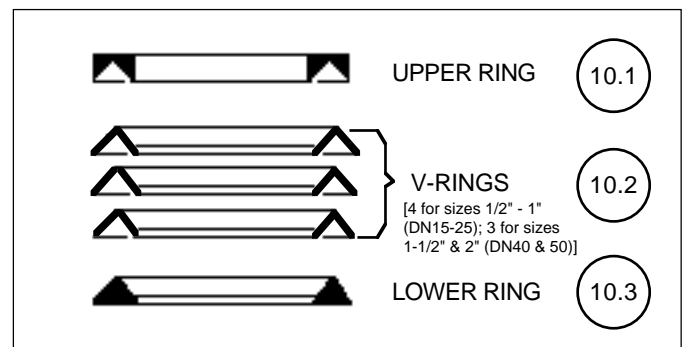

Figure 4 : Packing
20. Place bonnet (2) into a vise positioned to allow bottom insertion of stem (4) assembly.
21. Put TFE thread sealant tape over upper end of stem (4). Insert stem (4) assembly upwards thru the bonnet (2) until the plug-end (4) or upper adapter (4.3) touches the bonnet (2). Loosen vise and reposition bonnet (2) to prevent stem (4) assembly from dropping out the bottom of the bonnet (2). Retighten vise.
22. See Figure 4 for proper packing (10) orientation; **DO NOT INVERT PACKING RINGS (10)**. Insert lower ring (10.3) over upper end of stem (4) and push into bonnet's (2) packing box. Use a hollow tool or packing follower (11) to press the lower ring (10.3) fully into place. Repeat for all four/three of the packing v-rings (10.2) and the upper ring (10.1).